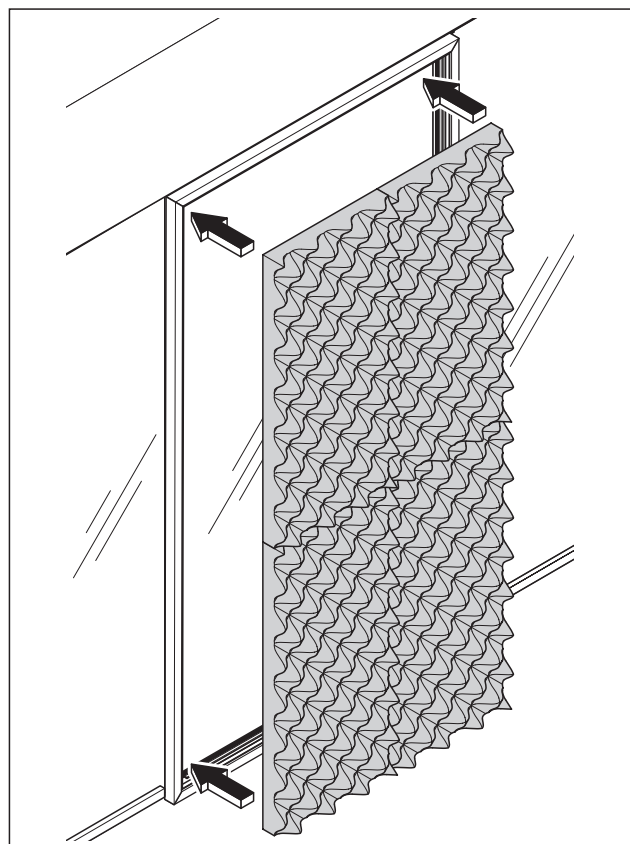

Fig. 36 Apply the sound-absorbing material over the entire surface of the glass
1. Cut the sound-absorbing material and attach it to the entire surface of the glass (Fig. 36).